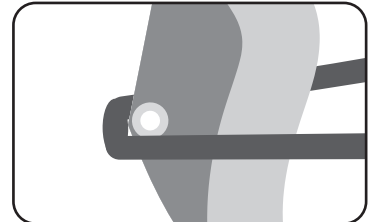

Fig. 7: Outhaul sail to the end of the boom
- d) Finally, outhaul your sail to the end of the boom (fig. 7).